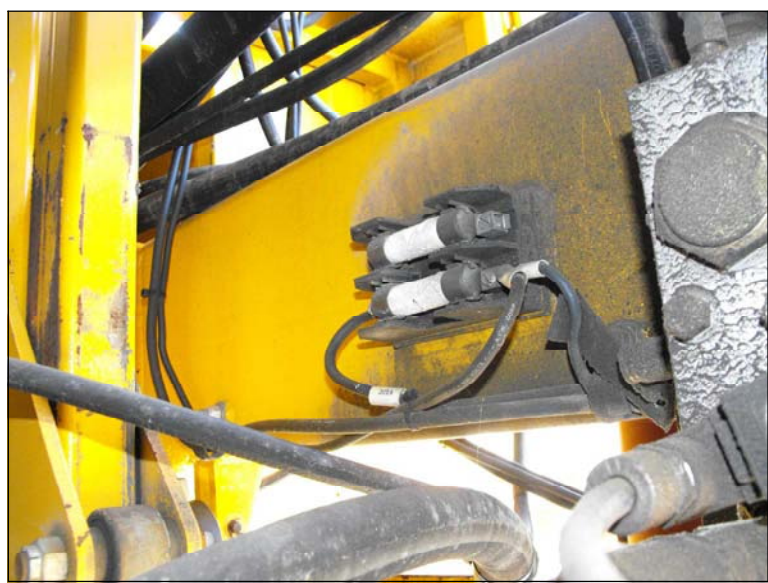

FIG 2. EXISTING FUSE BLOCK
5. Locate the Fuse Block in the engine compartment on the right side frame member (See Figure 2 on Drawing).
5. Locate the Fuse Block in the engine compartment on the right side frame member (See Fig 2).